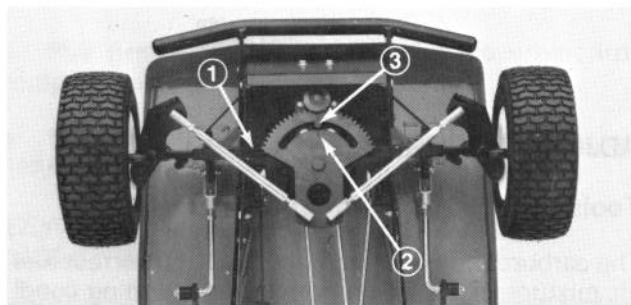

Figure 25
1. Assure Front Axle is level with frame and steering rack timing mark is centered on steering stop pin (Fig. 25).
2. To align front wheels, loosen jam nuts and turn tie rods until centerline distance across front of wheels is equal to or 3/16" max less than centerline distance across rear of front wheels (Fig. 25). Wheels should be straight ahead or toe-in should be equal when timing mark is centered.